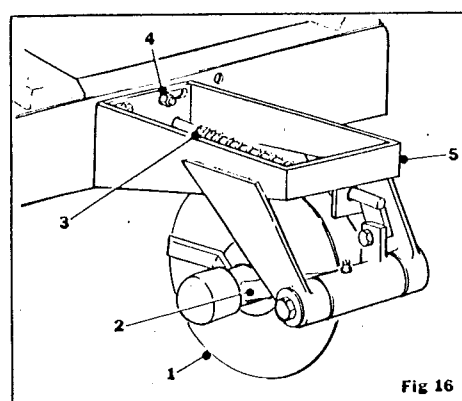

Fig 16
The disc (item 1 fig. 16) should align with the knife arm (item 18 fig. 14) so that the knife arm runs into the furrow left by the disc. To adjust, slacken the three securing bolts (item 4 fig. 16) and slide the disc coultter frame (item 5 fig. 16) to the required position. If extra adjustment is required, the bolts (item 4 fig. 16) can be removed and replaced in a different set of holes. Under normal conditions the disc (item 1 fig. 16) should be set to cut about 1½ inches (38 mm.) below ground level. To adjust, slacken the four retaining bolts (item 4 fig. 14) and pivot the topping unit frame (item 3 fig. 14) to give the required depth.
There should be enough spring tension on the disc arm (item 2 fig. 16) to make the disc cut into the soil, but the arm must also be able to lift up when the disc rides over obstructions. To vary the spring tension, turn the adjusting nut (item 3 fig. 16).